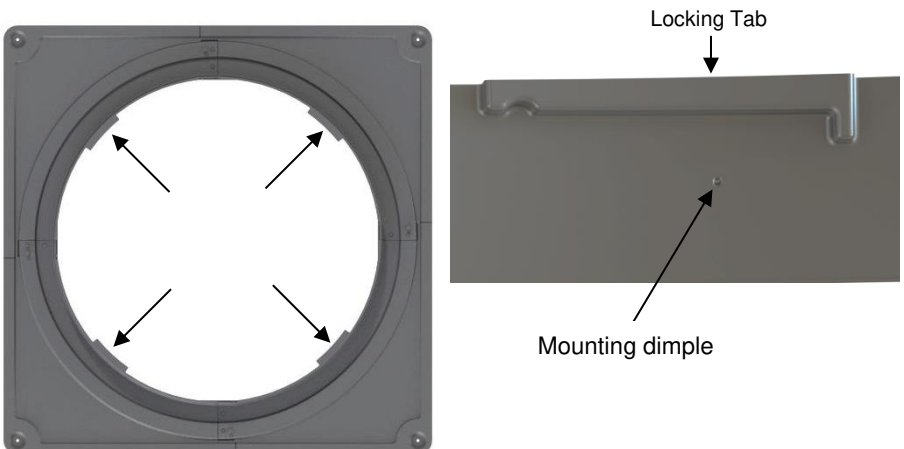

Figure 6: Locate four mounting dimples
- 5.) Locate the four (4) mounting dimples on the inside perimeter of the base flange (Fig.6).